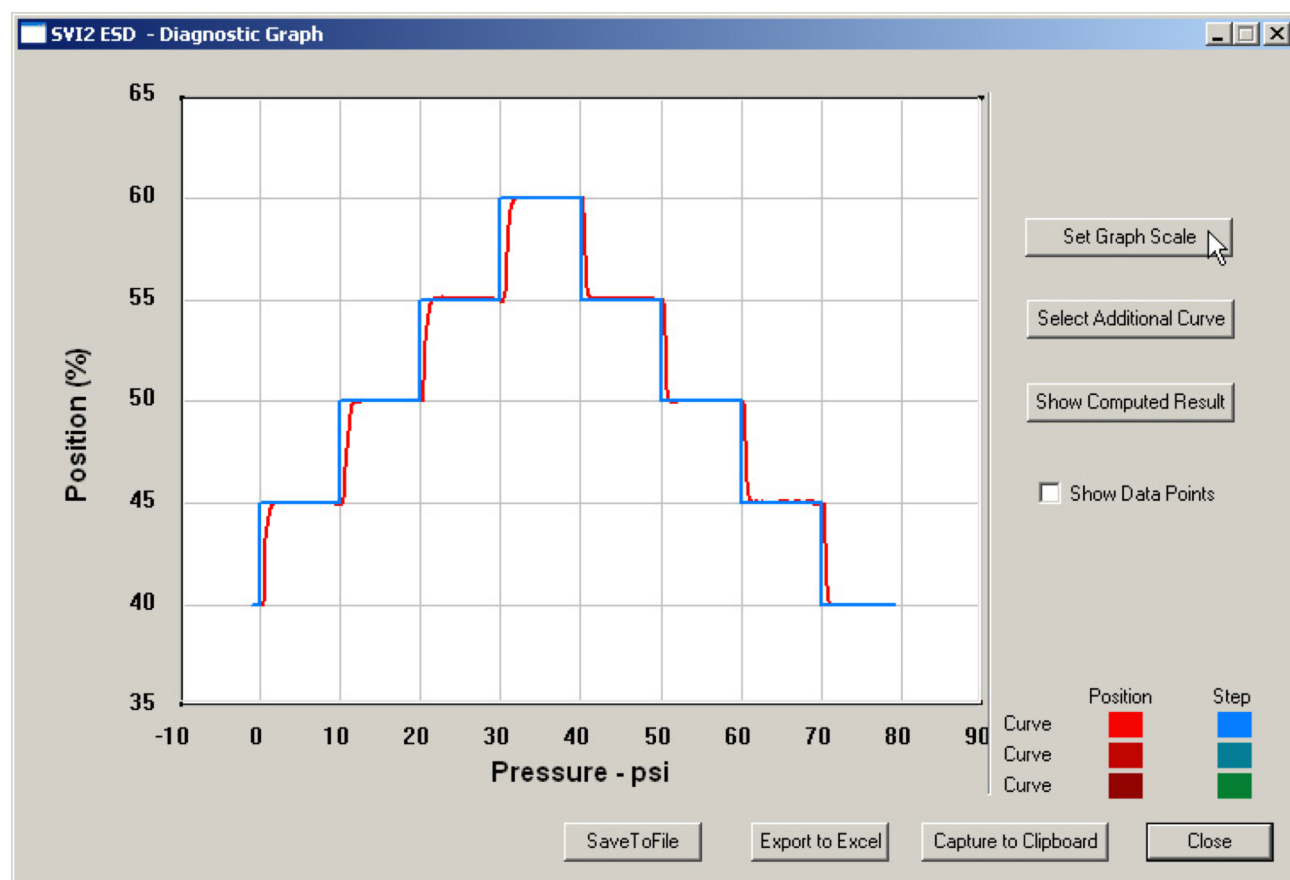

Figure 180 - Selecting Set Graph Scale
1. Select **Set Graph Scale** (*Figure 180*).